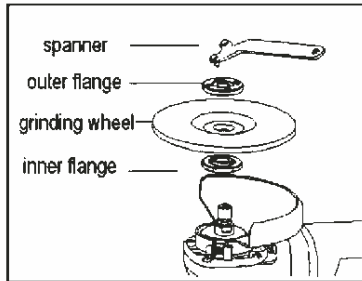
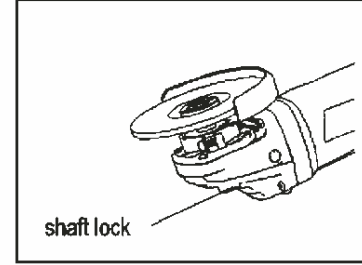

Fig3
Fig4
1. Mount the inner flange onto the spindle, Fit the wheel/disc on the inner flange and screw the outer flange onto the spindle (Fig 3).
2. To tighten the outer flange, Press the shaft lock firmly so that the spindle cannot revolve, then use the spanner (shown in Fig.3) and securely tighten clockwise. (Fig 4)